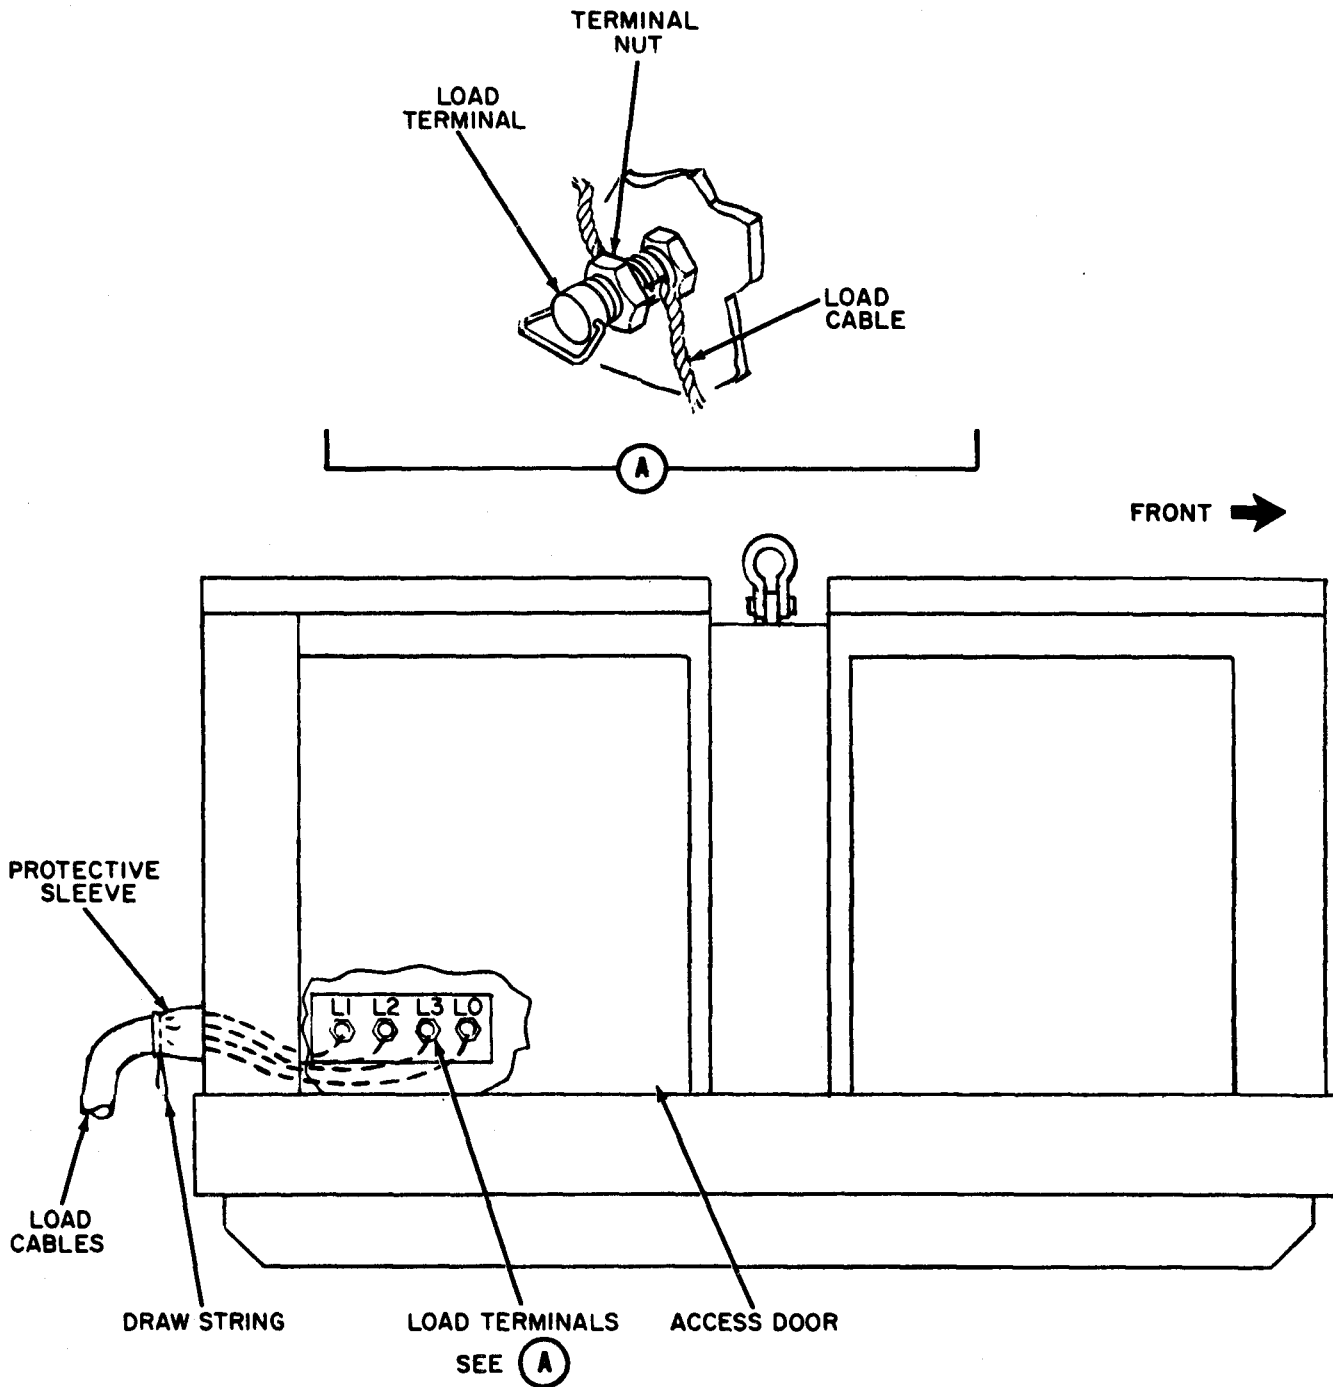

Figure 2-5. Load cable connections
g. LOAD CONNECTIONS. To connect load cables to generator set, refer to figure 2-5 and proceed as follows:
1. Open access door, refer to figure 2-5. Disconnect transparent cover by loosening six quick-release fasteners. Remove wrench from cover. Loosen terminal nuts, using wrench provided, and remove load cables from terminals. Untie drawstring and remove load cables from generator set. Install wrench on transparent cover and install cover. Close access door.